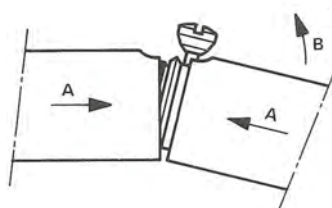

Fig. 11.
- Slacken the nut (12) as far as possible.
- Line up the nut (12) with the adjacent cutout, tilt the two components as shown in Fig. 11, then